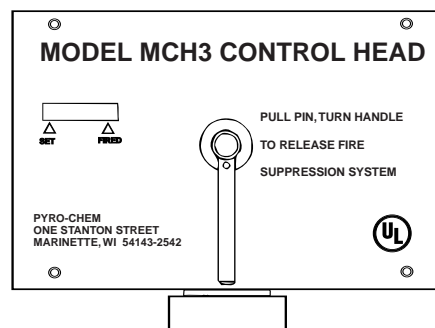

Figure 2-5. Mechanical Control Head.
The Model MCH3 mechanical control head is a fully mechanical control head which can be connected to the PCI-15/17/25s/35/70 cylinder valve. This control head will support a fusible link detection system, a remote mechanical pull station (Model RPS-M), and a mechanical or electric gas shut-off valve. A micro switch (Model MS-SPDT, MS-DPDT, MS-3PDT, or MS-4PDT) can be ordered separately and field installed. It is equipped with a local manual control handle that allows for mechanical system actuation. Operation of the local manual control requires removing the pull pin and rotating the handle clockwise. The Model MCH3 control head can actuate a maximum of five (5) cylinders. See **Figure 2-5**.